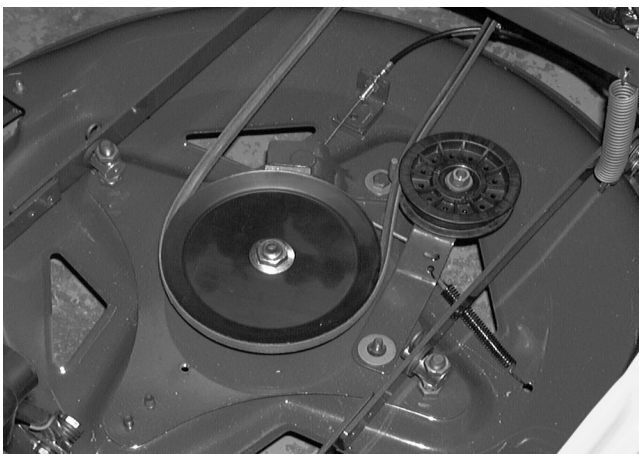

FIGURE 2.
- 6). Remove the deck belt cover from the deck assembly. See figure 2.